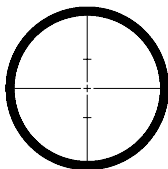

Fig.3.6
1) Observe sighting device (2) and let objective (8) collimate the object ( Fig.3.6 ).